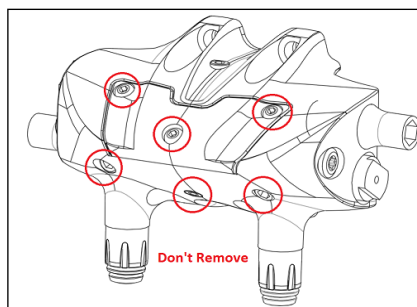

Fig. J-2 Do not remove the screws
- Please do not remove the screws from the hydraulic cap located the circled cylinder section, by removing the screw may cause unpredictable malfunctions. **(Fig. J-2)**